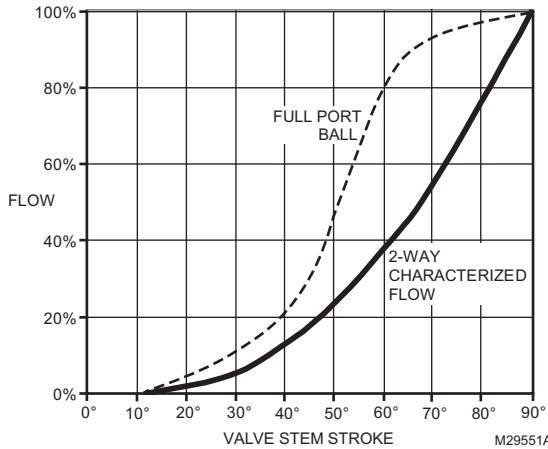

Fig. 33. Typical flow characteristics.
1. With modulating actuator, limit span of control voltage issued by the building automation controller. Valves with flow control inserts have an equal percentage flow characteristic (See Fig. 33). Each 10% reduction in maximum control voltage will result in a 10% reduction in flow.
2. To mechanically limit stroke, set DCA to full open position. Loosen shaft coupling and rotate valve shaft to desired maximum flow position, as confirmed by pressure measurement across coil, using coil manufacturer's data. Retighten shaft coupling. Use Fig. 33 as a guide to setting actuator stroke.